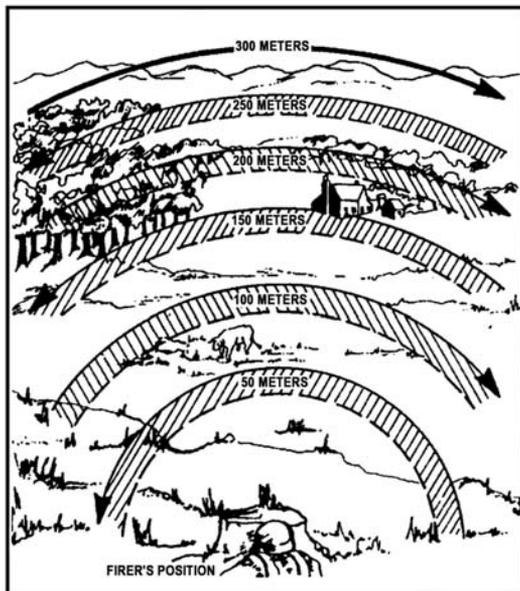

Figure 071-311-2007- 1. Searching the terrain in overlapping strips
- (1) Natural cover and concealment.
- (2) Good observation and fields of fire.
- c. Perform a systematic search. If you do not identify activity during your quick check, search the terrain in overlapping strips (figure 071-311-2007-1).